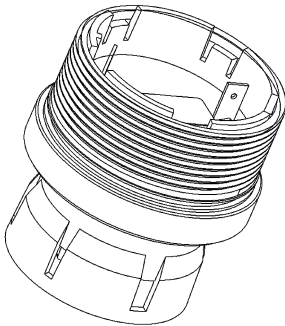

Fig. 14 Sensor and SensorGard
- (1) Unscrew the sensor unit from the bottom of the ULTIMA X[®] Series Gas Monitor [→ Fig. 14].
- (2) Identify and obtain the sensor unit needed.
- (3) Replace sensor unit.